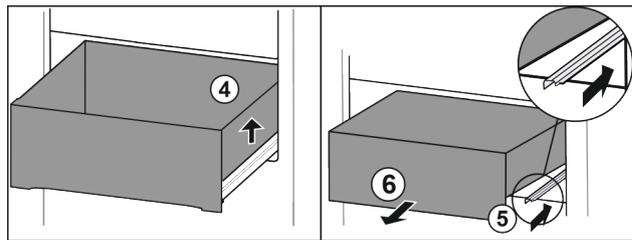

Fig. 75
- ▶ Lift drawer on the right. Fig. 75 (4)
- ▶ Insert right rail. Fig. 75 (5)
- ▶ Remove drawer to the front. Fig. 75 (6)